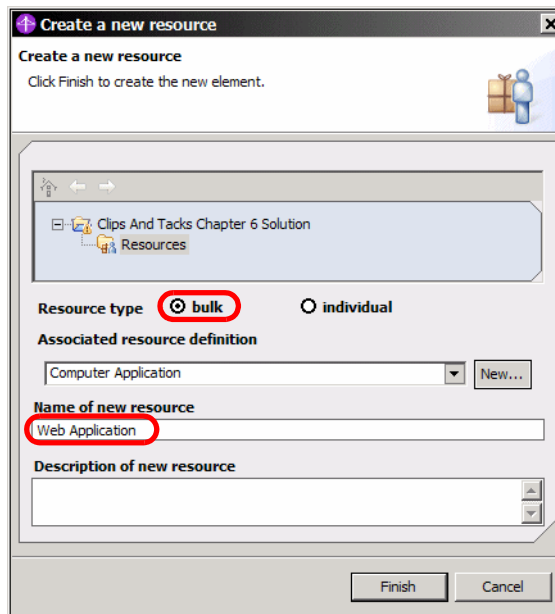

Figure 7-5 Create resource dialog
- ▶ In the dialog (Figure 7-5), enter the name *Web Application*, select *Computer Application* for Associated resources definition, select *bulk* as Resource type, and click *Finish*.